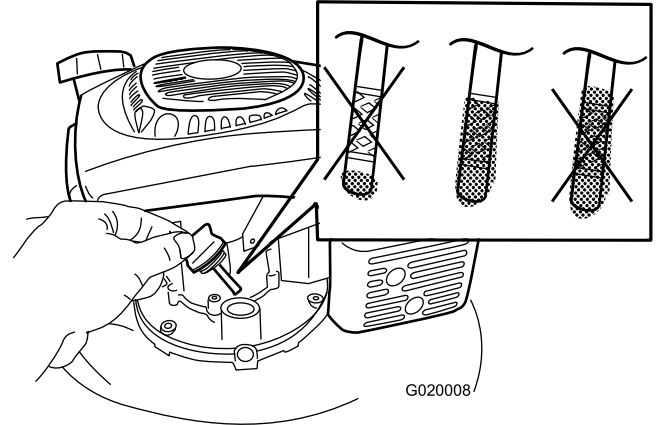

Figure 5
1. Remove the dipstick (Figure 5).
2. **Slowly** pour oil into the oil-fill tube until the oil level reaches the Full line on the dipstick (Figure 5). **Do not overfill.** (Max. fill: 22 oz. (0.65 l), type: 10W-30 or SAE 30 detergent oil with an API service classification of SJ or higher.)
**Note:** Each time you check the oil level, remove the dipstick and wipe it clean, insert it into the oil filler neck (but **do not** screw it in), then remove it again and check the level (Figure 5).